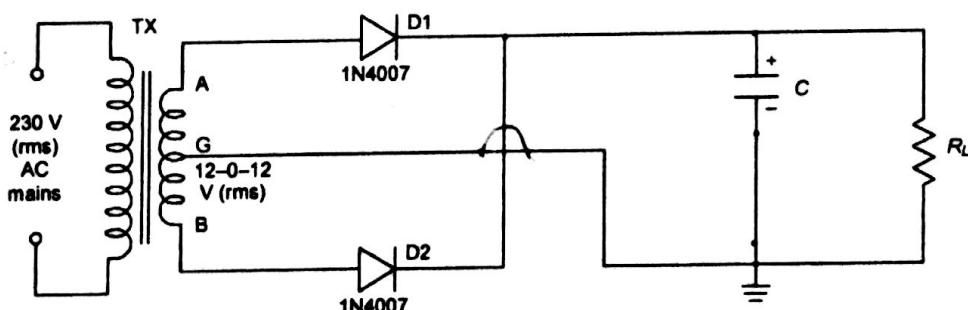

Fig. 5.1 Power supply using a centre tapped transformer and full-wave rectifier.
1. Set up the circuit as shown in Fig. 5.1 without the capacitor C. The transformer TX has rating of 230 V to 12-0-12 V, 1 A. Take  $R_L = 1 k\Omega$ . Connect transformer primary to the mains and switch on the mains. Display the secondary voltages  $V_{AG}$  and  $V_{BG}$  ( $V_{AG}$  to Ch-1,  $V_{BG}$  to Ch-2) on the oscilloscope. Make sure that both the "probe grounds" are connected to the circuit ground. Sketch the waveforms overlapping, with the same time and amplitude axes. They should be  $180^\circ$  out of phase.
3. Now connect  $C = 100 \mu F$  as shown in Fig. 5.1. Sketch  $V_o$  and measure  $V_r$  (peak-to-peak ripple voltage). Set the oscilloscope channel to AC coupling and increase vertical sensitivity (decrease V/div) while measuring  $V_r$ .